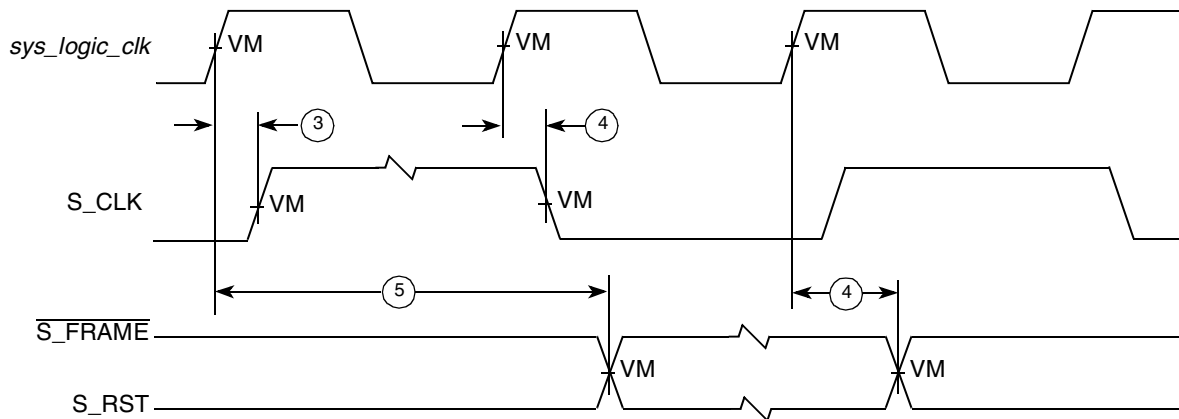
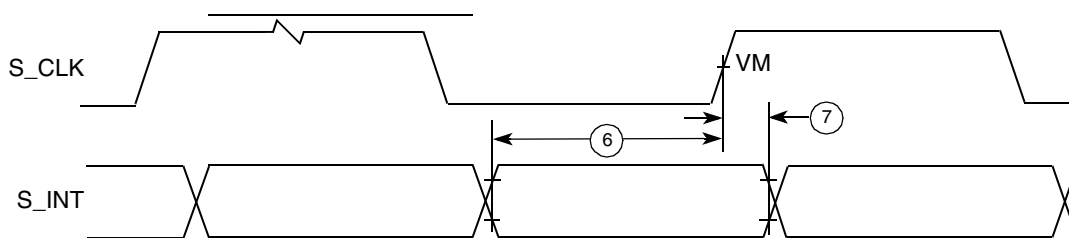

Figure 18. PIC Serial Interrupt Mode Output Timing Diagram
Figure 19. PIC Serial Interrupt Mode Input Timing Diagram
- S_RST, $\overline{\text{S_FRAME}}$, and S_INT shown in Figure 18 and Figure 19, depict timing relationships to *sys_logic_clk* and S_CLK and do not describe functional relationships between S_RST, $\overline{\text{S_FRAME}}$, and S_INT. The *MPC8245 Integrated Processor Reference Manual* describes the functional relationships between these signals.